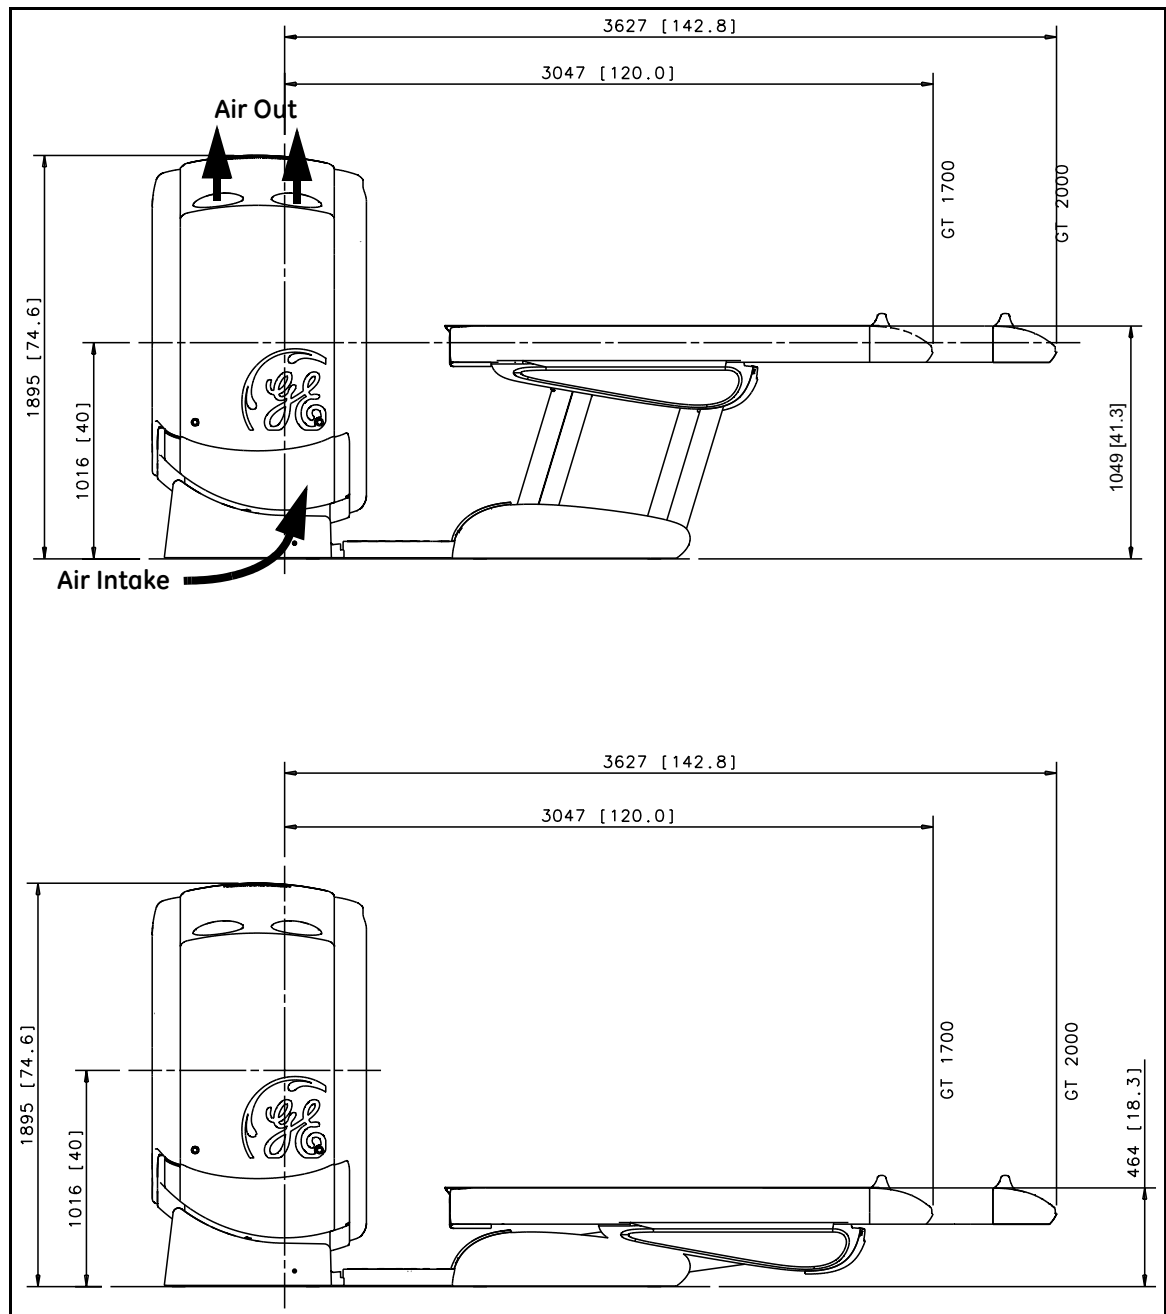

Figure 4-8 GT 1700 and GT 2000 Table and Gantry (Side View)
The floor structure must be capable of withstanding the occupied weight of the table and gantry, and the individual contact area loading of these components. Refer to Figure 4-8 for each of the three (3) major components of the LightSpeed 7.X system.